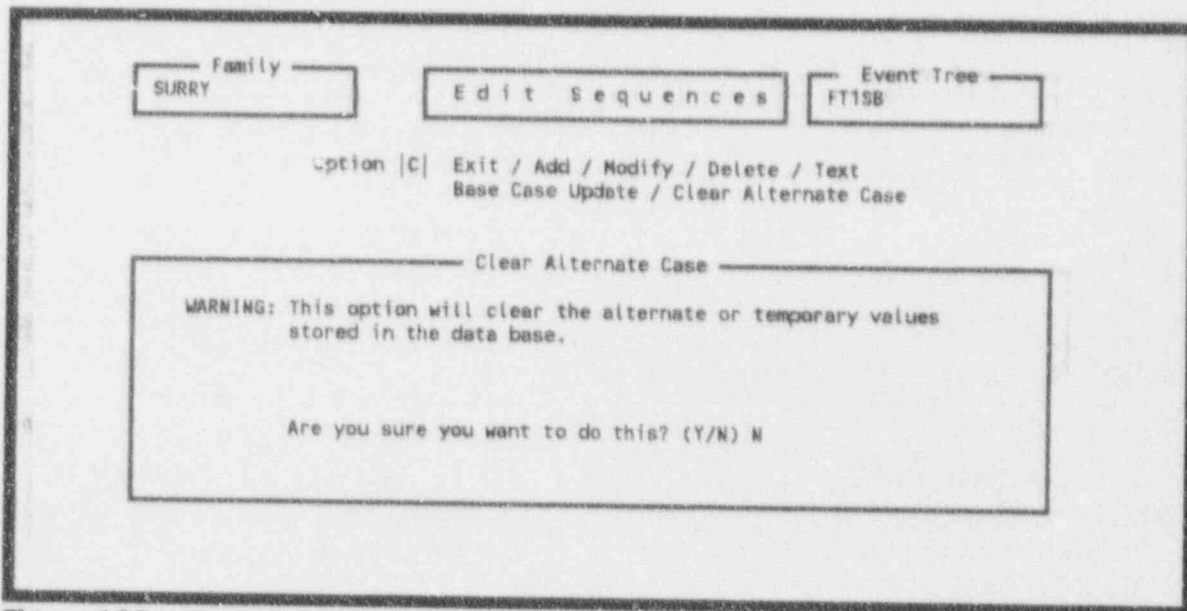

Figure 169. Clear alternate case for selected sequence(s).
**7.3.6.7 Clear Alternate Case.** This option clears all alternate case information for the specified sequence(s). To invoke this option, type a <C> in the option field, highlight the desired sequence and press <Enter>. A warning will be displayed (see Figure 169). To continue enter a <Y> and press <Enter>; otherwise enter an <N> and press <Enter> to terminate the process.